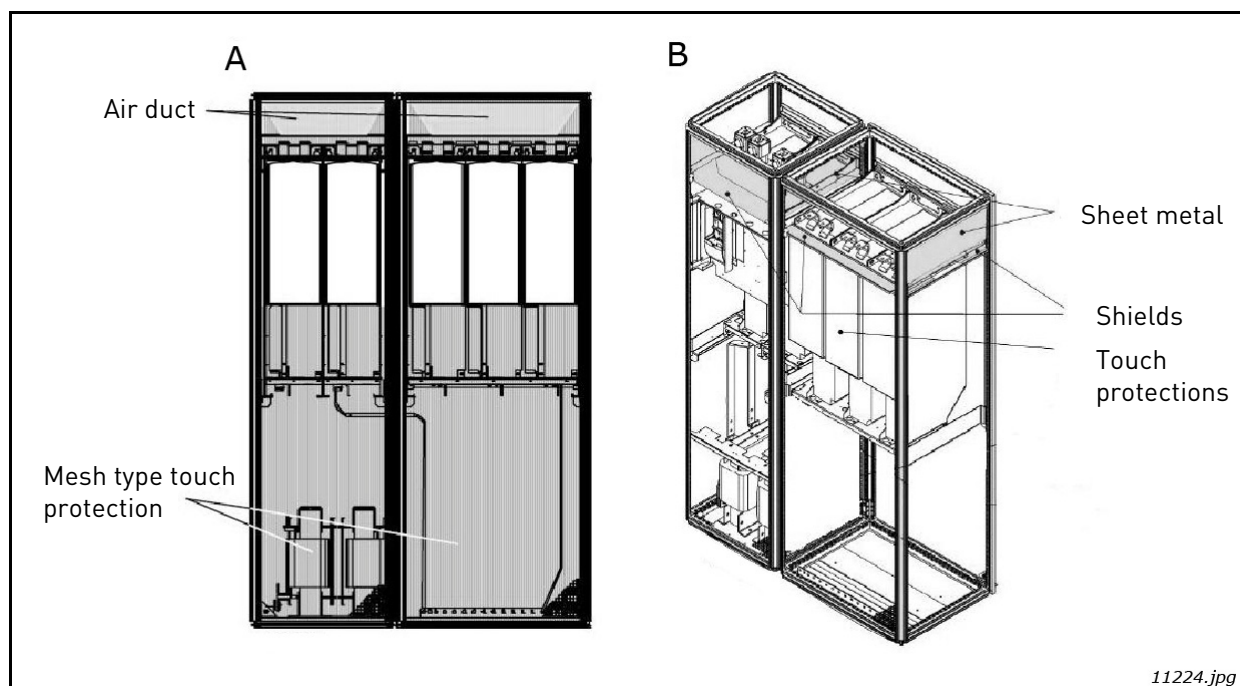

Figure 45. Cabinet cooling airflow guides
- A. Install a closed air duct from the power unit to the outlet on top of the enclosure (A in Figure 45).
- B. Install shields in the gaps between the power unit and the cabinet walls (B in Figure 45).